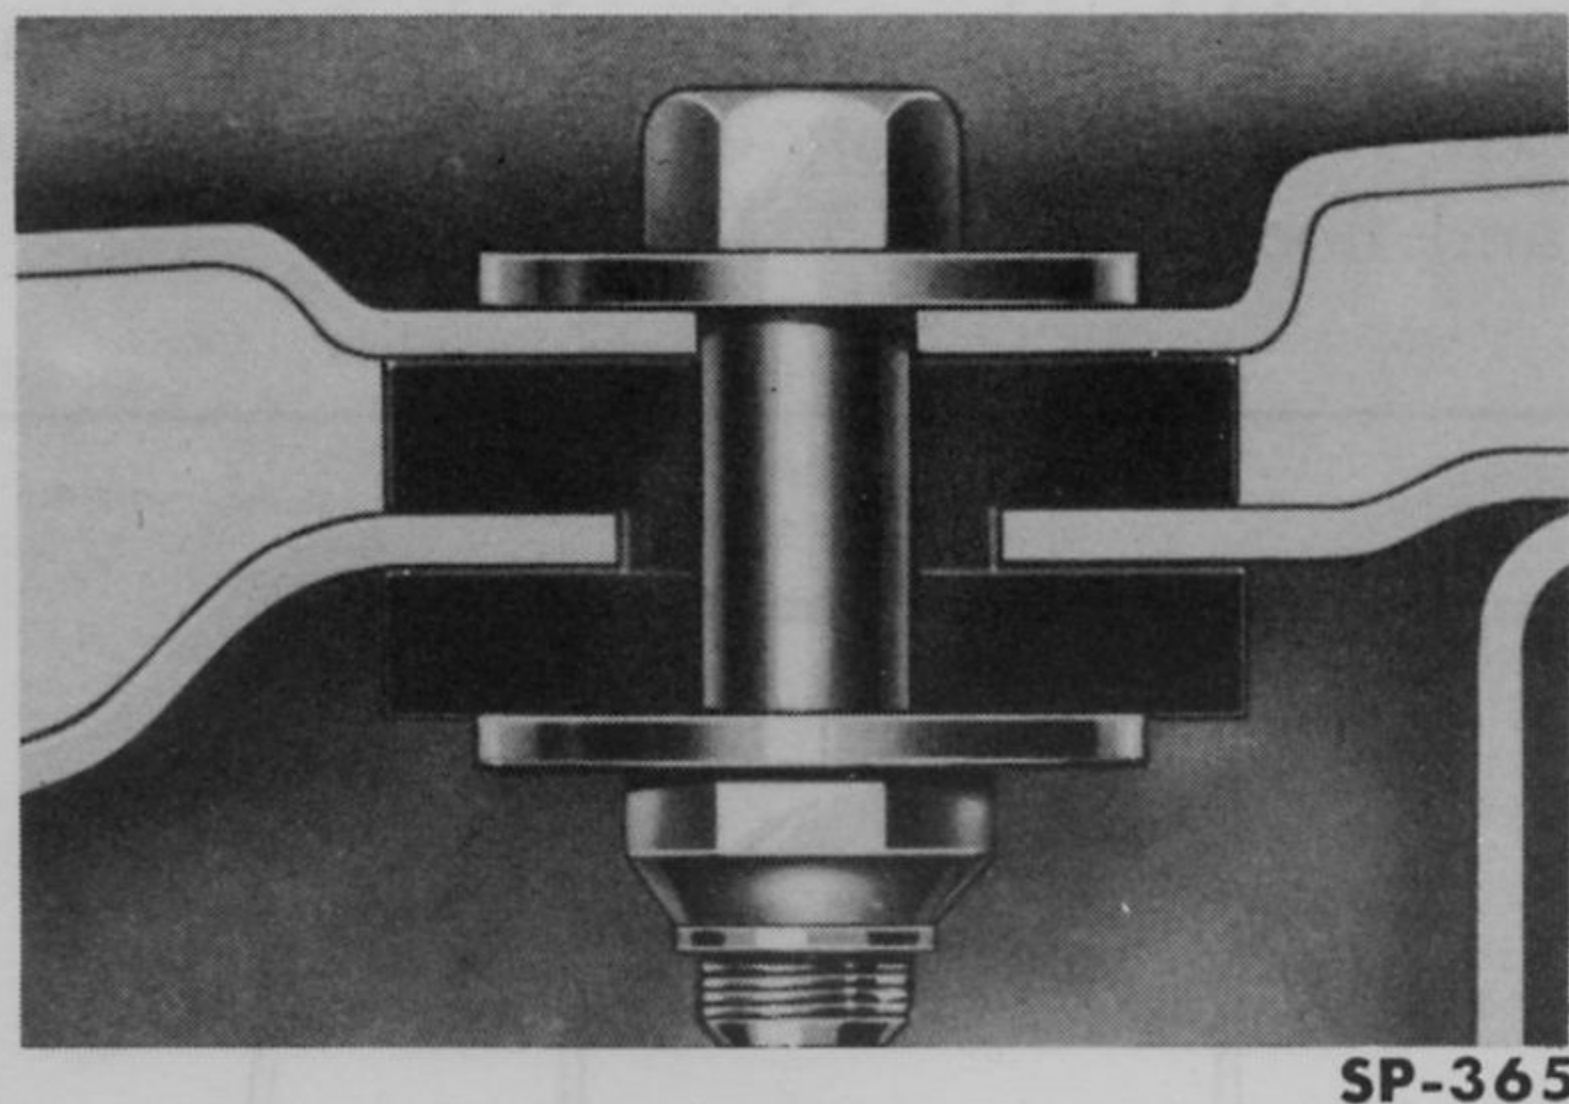

Fig. 332—Typical Body Mounting—Frazer
**b. FRAZER MODELS.** Shock insulation is provided between the chassis and body by twenty-two special rubber body mounting insulators (Fig. 332).